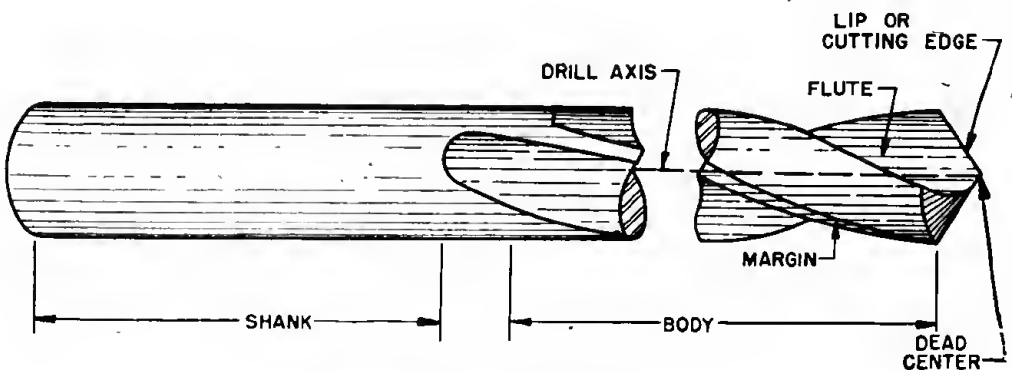

Figure 123. Parts of a drill.
e. DRILLS AND DRILLING. (1) When making installations to comply with changes in Technical Orders and when patching the airplane skin, the airplane mechanic needs to be able to use and sharpen twist drills properly. A drill is in figure 123. The lips are the parts which actually do the cutting. The flutes allow the chips to escape and give the correct rake to the cutting lips. The body of the drill is ground away slightly except at the margin to reduce the friction of the drill as it rotates.
(2) When laying out work to be drilled, a small prick-punch mark